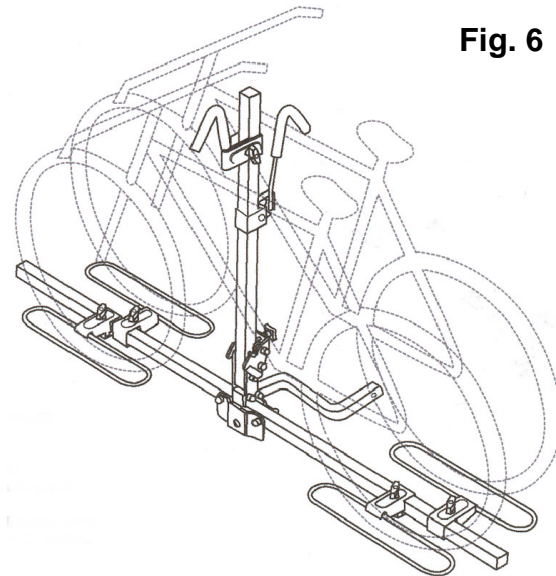

Fig. 6
14. With the bicycle sitting in the wheel holders, and the large hook in the lowest possible position on the bike frame, tighten the quick release lever at the base of the hook, turning the knob until it is snug, then clamping (closing) the quick release lever to make it absolutely tight. See **Fig. 6** showing bikes mounted on the Sport Rider rack.